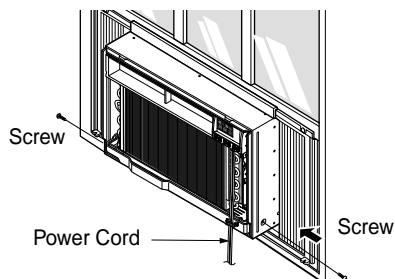

Fig. 7
- 7 Slide the unit into the cabinet. (See Fig. 7)